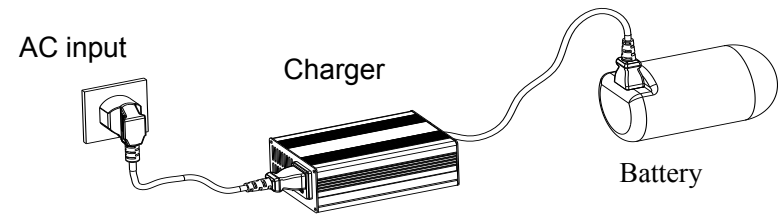

Fig 1. Connection diagram
4.1 Please connect the charger according to the Fig 1 when starting charging. Connecting the DC terminal to battery firstly, and then connecting the AC terminal.